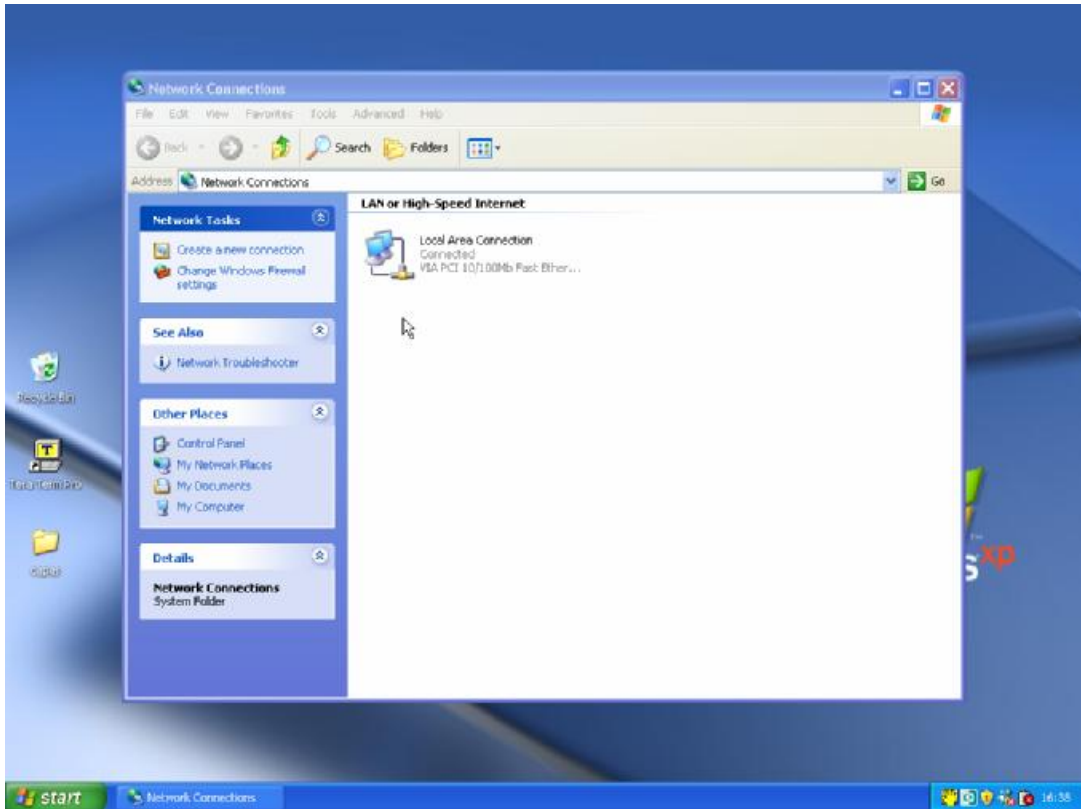

Figure 3-2. Network Connections window
- 2) The Network Connections window will appear as shown in Figure 3-2.